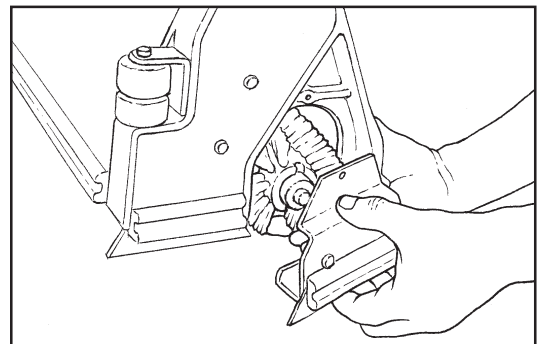

Figure 16
5. Lower door approximately  $\frac{1}{2}$  inch and slide door and bearing assembly off shaft (figure 16).